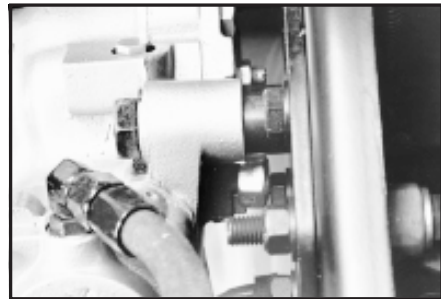

Figure 4.2
2. If the steering gear has been mounted to the frame in a way that causes the gear to distort (not be flat), it may cause a steering problem. *Figure 4.2.* Checking to see if distortion is present on the vehicle may require the following test: